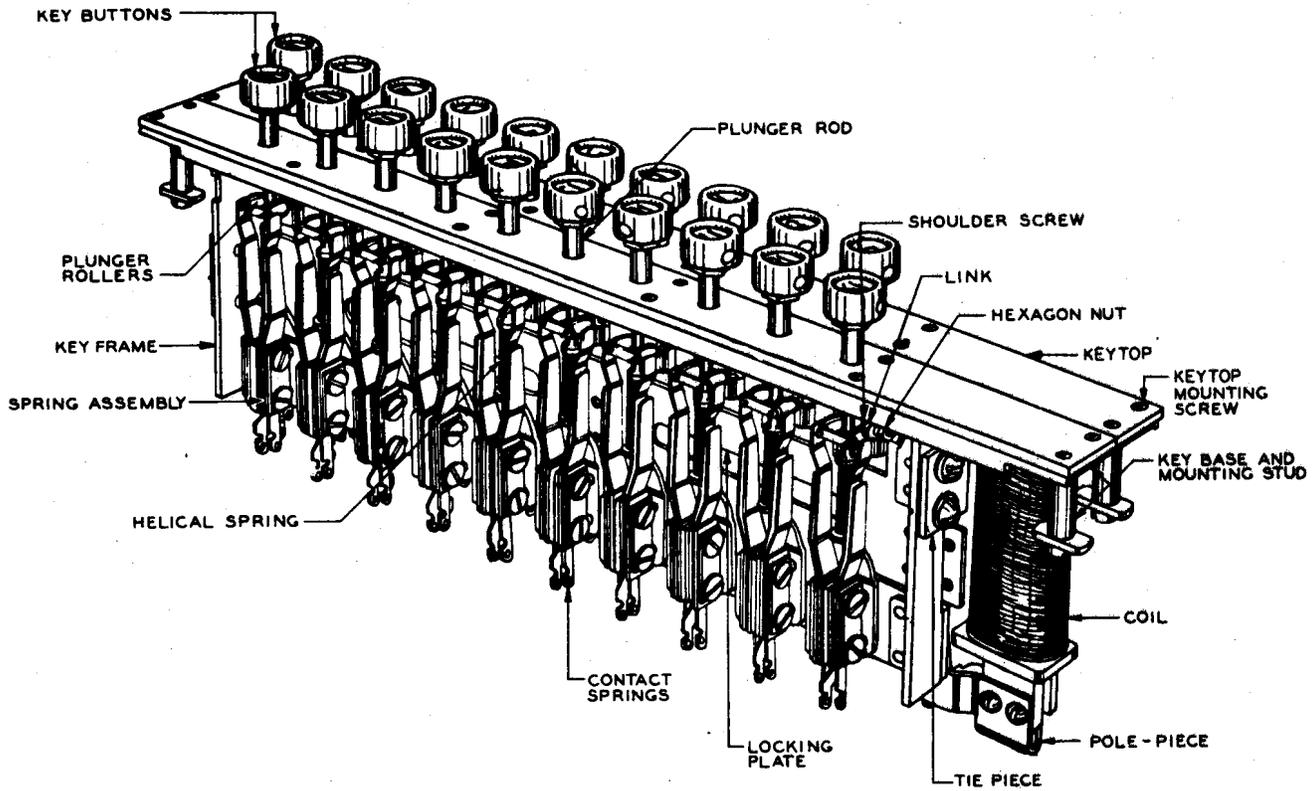

Fig. 57—E2-Type Key
**3.23 E2-Type Key (10 Through 19 Units):** Remove the two space mounting screws with the 3-inch C screwdriver. Hold the shoulder screw nut with the 485A pliers, and remove the shoulder screw with the KS-6854 screwdriver. Remove the tie piece mounting screws with the 3-inch C screwdriver. The two units can now be separated. Replace the locking plate as covered in 3.21. Reposition the tie pieces, and tighten the screws securely. Replace the shoulder screw in the link, and tighten the screw and nut securely. Replace the two spacers, and tighten the screws securely. (See Fig. 57.)